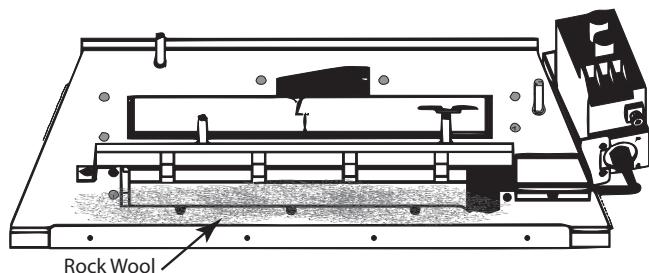

Figure 5.19 - Install Rock Wool
1. Before installing logs, place rock wool in front of the grate. Loosely apply nickel size pieces to allow the gas to flow through for proper burn and not to be obstructed. Failure to do so would cause a higher level of CARBON MONOXIDE. See Figure 5.19.